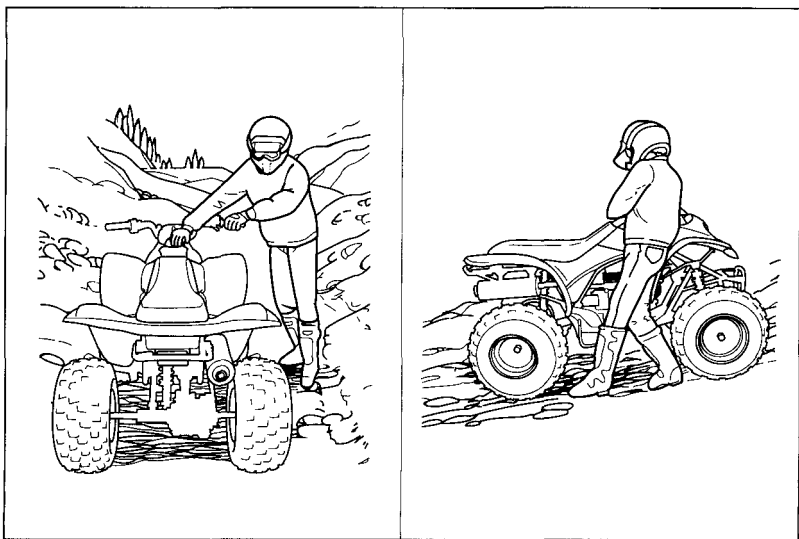

Fig. 3-14 Be sure your legs are clear of the wheels.
1. Stand with your body facing downhill, beside the vehicle so you can reach the front brake lever with your left hand (See Fig. 3-14).